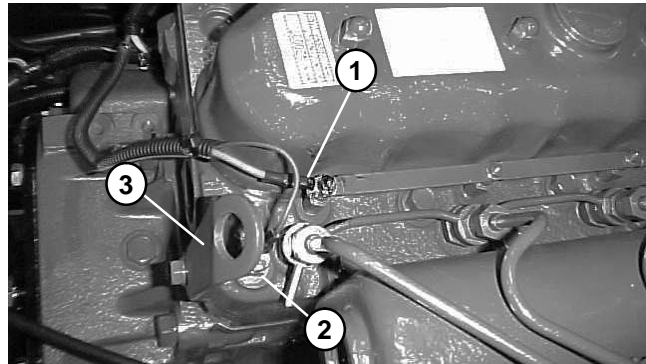

Figure 14
- C. The high temperature shutdown switch and glow plug (Fig. 14).